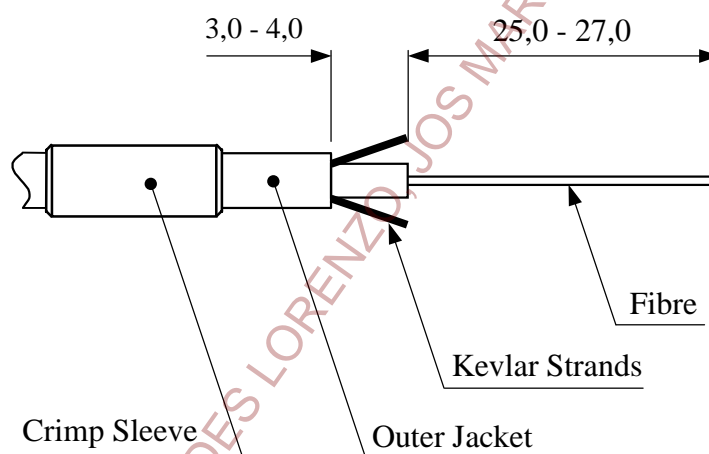

Figure 2
- 2.4 Strip the cable to the dimensions shown in Figure 2.